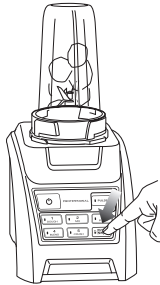

Fig. 3
- 5 Press down on the Pulse button in short intervals to break down tough ingredients. Press the Nutri Ninja® button to activate the 30 second continuous run. **(Fig. 3)** The unit will stop after 30 seconds.